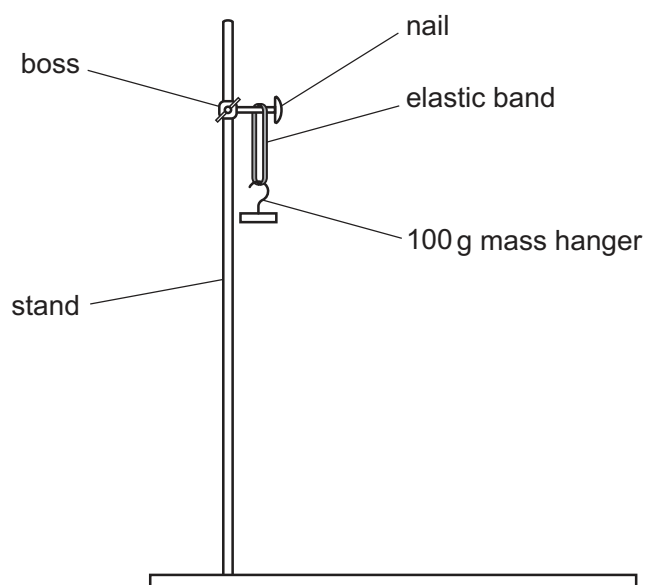

Fig. 4.2
- suspends the elastic band from a nail and carefully places a 100g mass hanger onto the elastic band as shown in Fig. 4.2